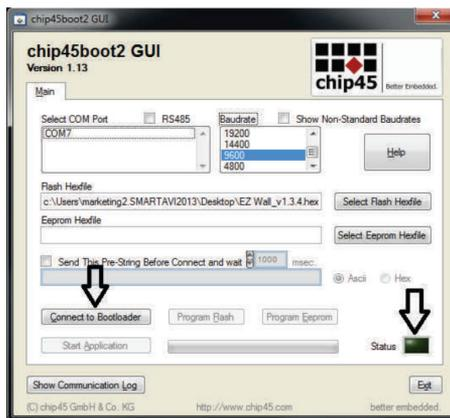

Figure 12-1
5. Initially the Status light in the lower right side of the chip45boot2 window will be dark. Status will appear next to it. The boot loader in the EZWall-Pro 3x3 V2 is only accessible for a few seconds after you power up the EZWall-Pro 3x3 V2. Immediately after turning on the power switch on the EZWall-Pro 3x3 V2 you must click the “Connect to Bootloader” button in the chip45boot2 window. You only have a second to connect. If you connect successfully to the boot loader the Status light will turn green and connected will appear next to it. If it doesn’t connect the Status light will turn red and Failed will appear next to it. If you fail to connect, power off the EZWall-Pro 3x3 V2 and try again. See Figure 12-1.